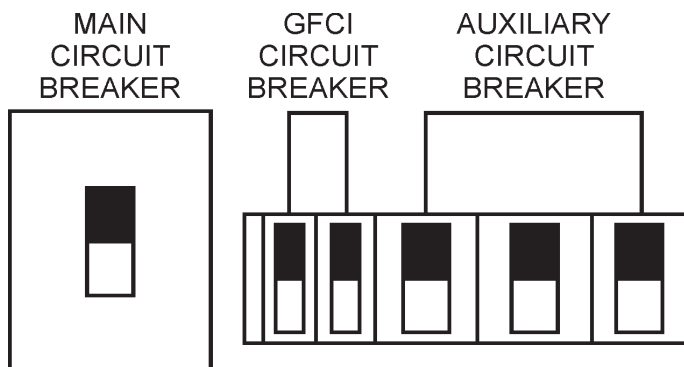

Figure 61. Main, Aux. and GFCI Circuit Breakers (ON)
17. Place the **main**, **GFCI**, and **aux.** circuit breakers in the "ON" position (Figure 61).
1. To shut-down the engine in the event of an emergency, switch the **MAIN**, **GFCI** and **LOAD** (Figure 61) circuit breakers to "OFF" position.